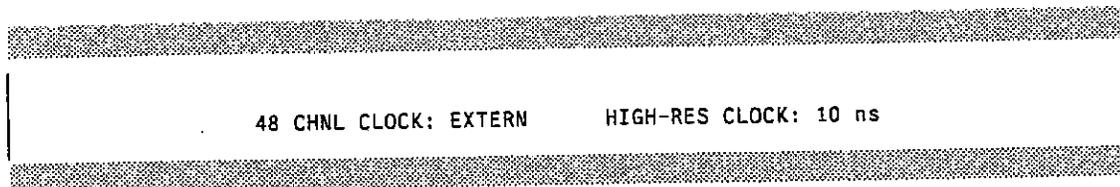

Fig. 7-10
- TIMING:** The recorded data are graphically displayed channel by channel in a way corresponding to the time axis of the electric signals. The time axis is horizontally directed toward the right (see fig. 7-10 and section 7.3.2). The display format is specified in the CONFIGURATION menu.